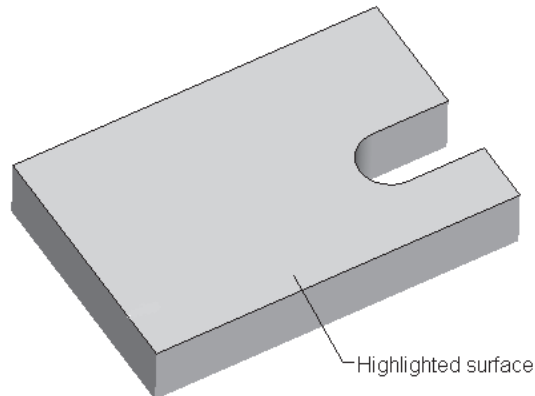

Figure 4-66 Surface selected to be at the top
7. Select **Top** from this menu and choose the top planar surface of the model shown in Figure 4-66.